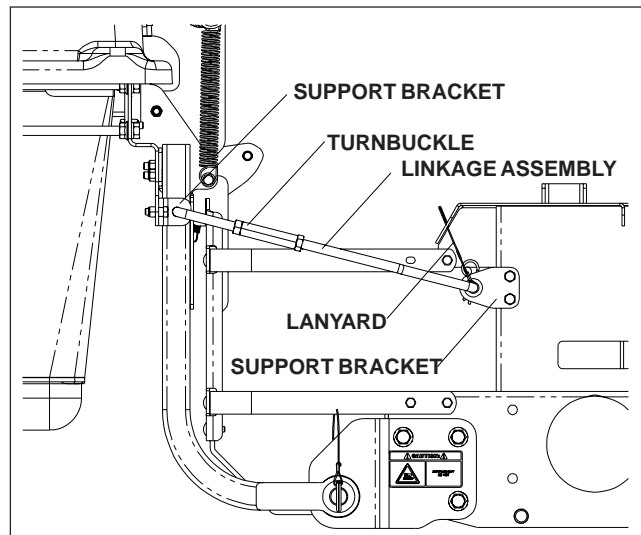

FIGURE 6
11. Install the (2) linkage assemblies to the (2) support brackets on hitch assembly and the (2) support brackets on the frame. The shorter linkage connects to the support bracket on the hitch assembly. Figure 6.
12. Secure the front of the linkage assemblies using the hairpin secured by the lanyard. Secure the rear of the linkages using the (2) 990654, cotter pins provided. Figure 6.